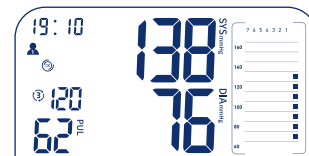

Figure 8
- At the end of the measurement, the result is shown in the display. A bar chart appears on the right of the display showing the results of the individual measurements. The current measurement is displayed in the right-hand column. (Figure 8).
- There is an interval of two minutes to prevent the blood flow in the arm from being interrupted for too long. A clock counts down from 120 seconds to 0 next to the triple measurement symbol ③ (Figure 8).